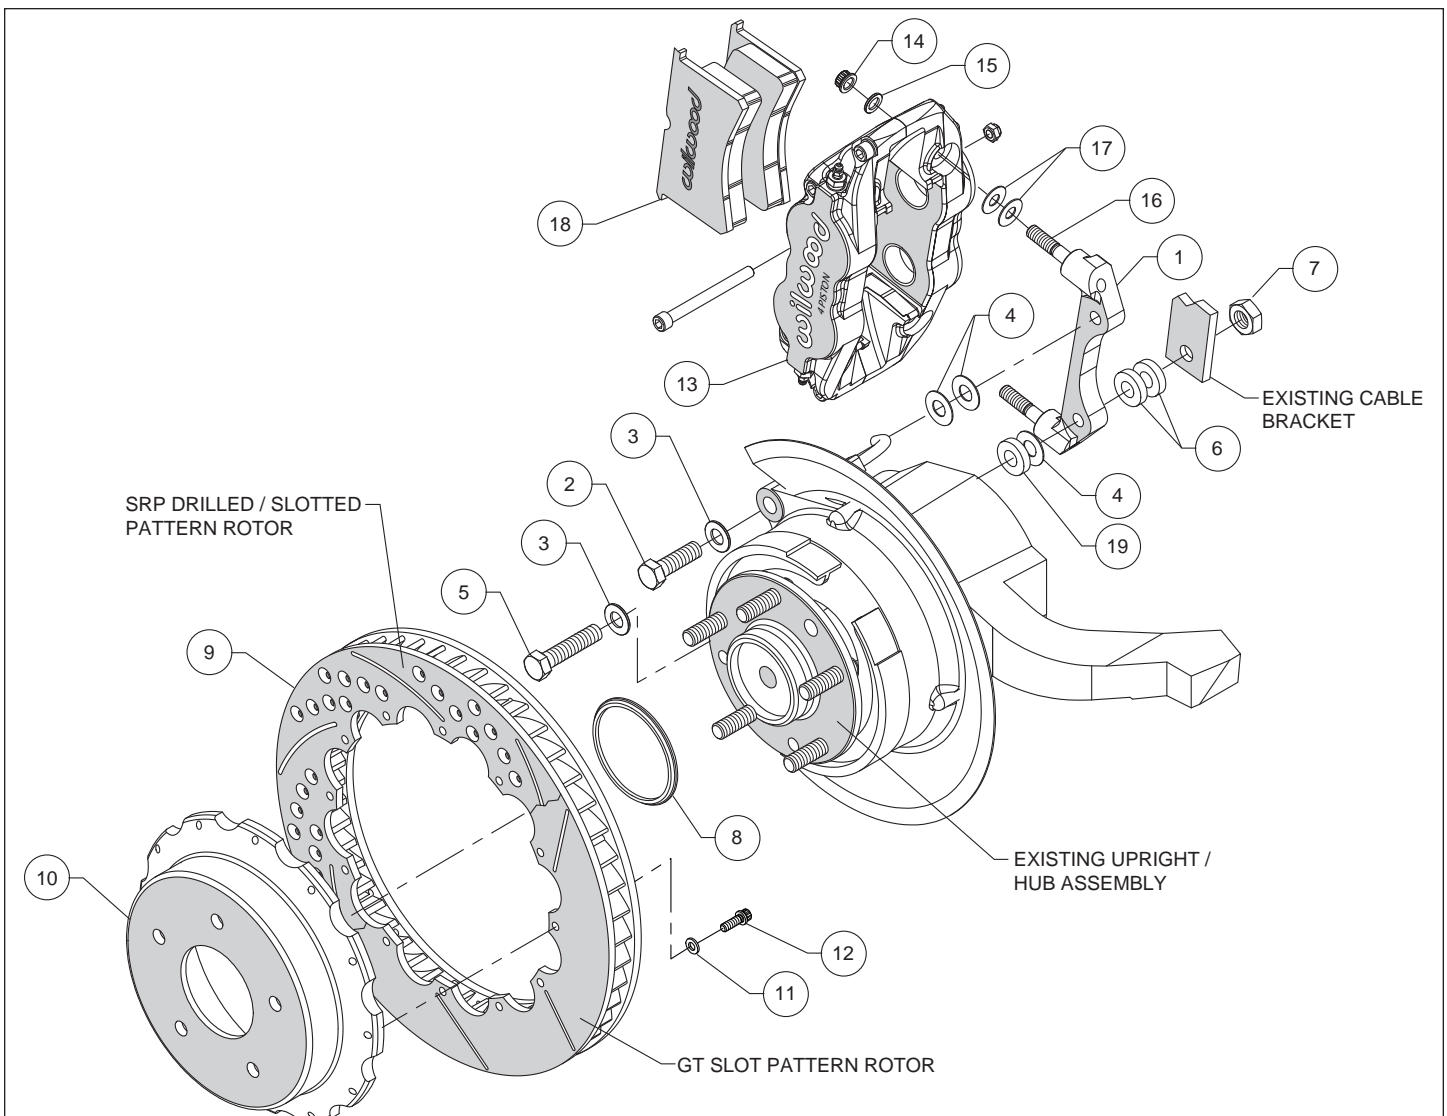
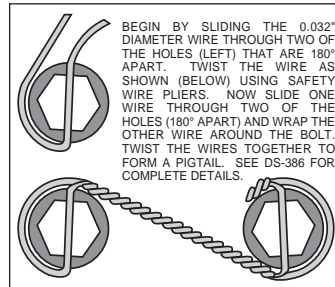

Figure 1. Typical Installation Configuration
Figure 3. Safety Wire Diagram
Assembly Instructions (numbers in parenthesis refer to the parts list and Figure 1 on the preceding pages):
- The caliper mount bracket (1) should initially be installed with clean, dry threads on the mounting bolts. Orient the bracket as shown in Figure 1, and install using bolt (2), washer (3) and two shims (4) for the top mounting hole. Secure the bottom of the bracket using bolt (5), washer (3), .145 thick spacer (19), and one shim (4) as shown in Figure 1 and Photo 1. Temporarily tighten the mounting bolts. **NOTE: The bracket must fit squarely against the mount bosses on the upright.** Inspect for interference from casting irregularities, machining ridges, burrs, etc. Later, after the caliper alignment has been checked, the mount bolts will be secured using red *Loctite*® 271.
- Orient the rotor (9) and the hat (10) as shown in Figure 1 and Photo 2. Attach rotor to hat using bolts (12) and washers (11). Using an alternating sequence, apply red *Loctite*® 271 to the threads, and torque to 140 **in-lbs**. For an added measure of security, the bolts may be safety wired using standard 0.032 inch diameter stainless steel safety wire as shown in Figure 3. Please refer to Wilwood's data sheet DS-386 (available at www.wilwood.com/Pdf/DataSheets/ds386.pdf) for complete safety wire installation instructions.
- Slide the rotor registration adapter (8) onto the axle register on the axle hub with the smaller O.D. facing outward, Photo 3. Slide the hat/rotor assembly onto the axle hub. **NOTE: The hat must fit flush against the axle hub flange or excessive rotor run out may result.** Install three lug nuts (finger tight) to keep the hat/rotor assembly in place while continuing with the installation.
- Lubricate the caliper mounting studs (16) with lightweight oil. Initially place two .035" thick shims (17) on each stud as shown in Figure 1 and Photo 4. Mount the caliper (13) onto the bracket (1) using lock nuts (14) and washers (15), Figure 1 and Photo 5. Temporarily tighten the lock nuts and view the rotor through the top opening of the caliper. The rotor should be centered in the caliper, Photo 6. If not, adjust by adding or subtracting shims (4) between the bracket and the upright. Once the caliper alignment is correct, remove the bracket mounting bolts one at a time, apply red *Loctite*® 271 to the threads, and torque to 60 ft-lb.